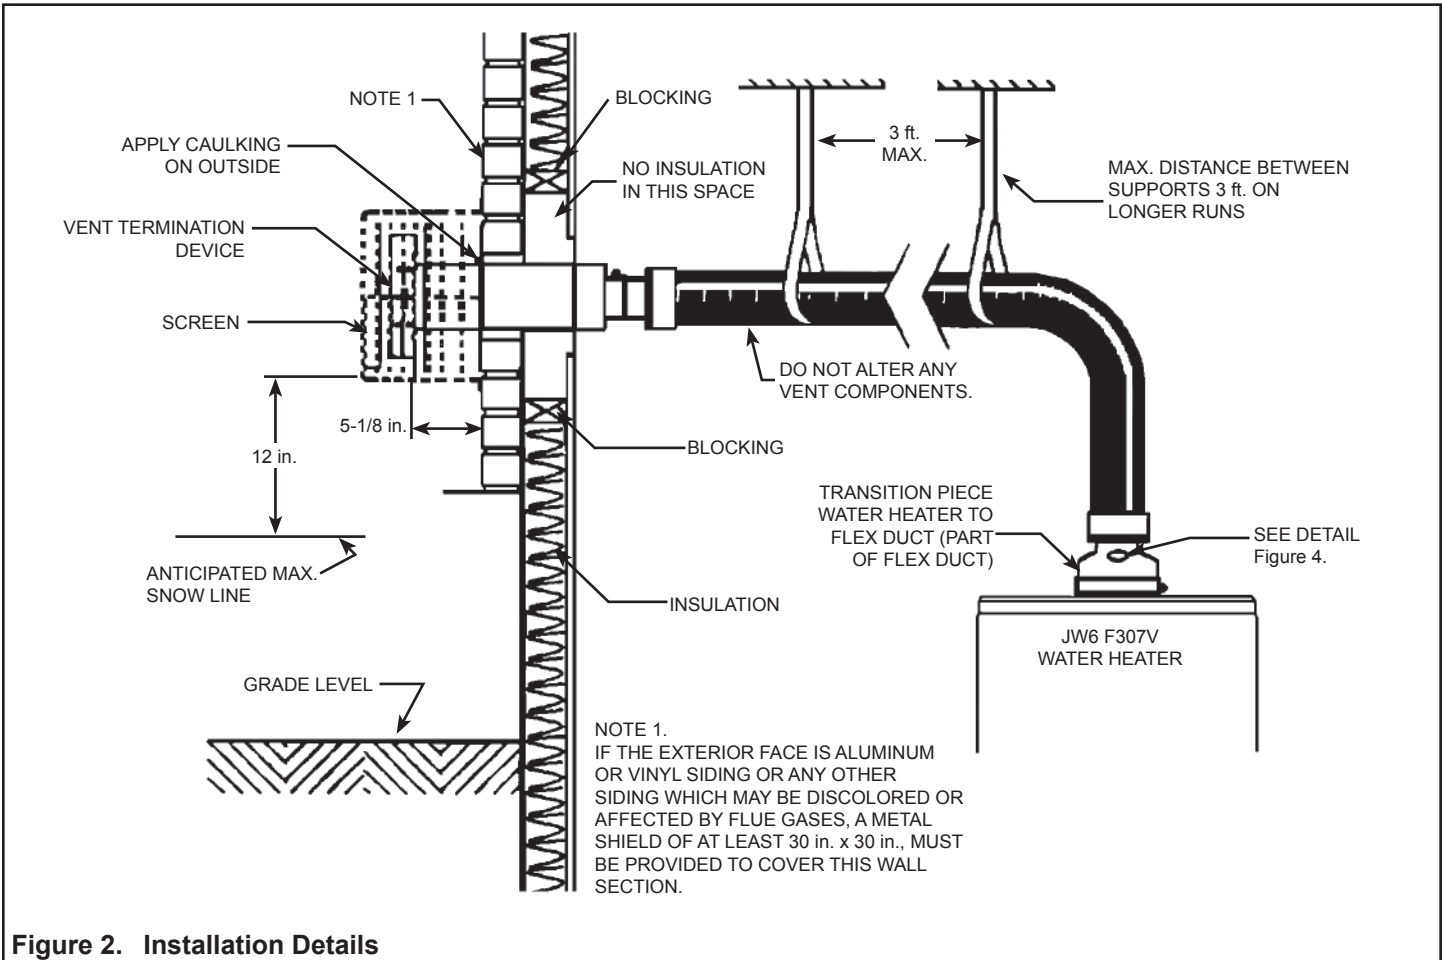

Figure 2. Installation Details
Locate the water heater as close as possible to an exterior wall to minimize the length of flex duct required. However, the minimum length available is 5 ft. and under no circumstances must any component be altered. Consider the direction of predominant winds and the possible snow accumulation against that side of the building (see Figure 2).
8. Support longer horizontal runs. Maximum spacing must not exceed 3 ft. (see Figure 2).